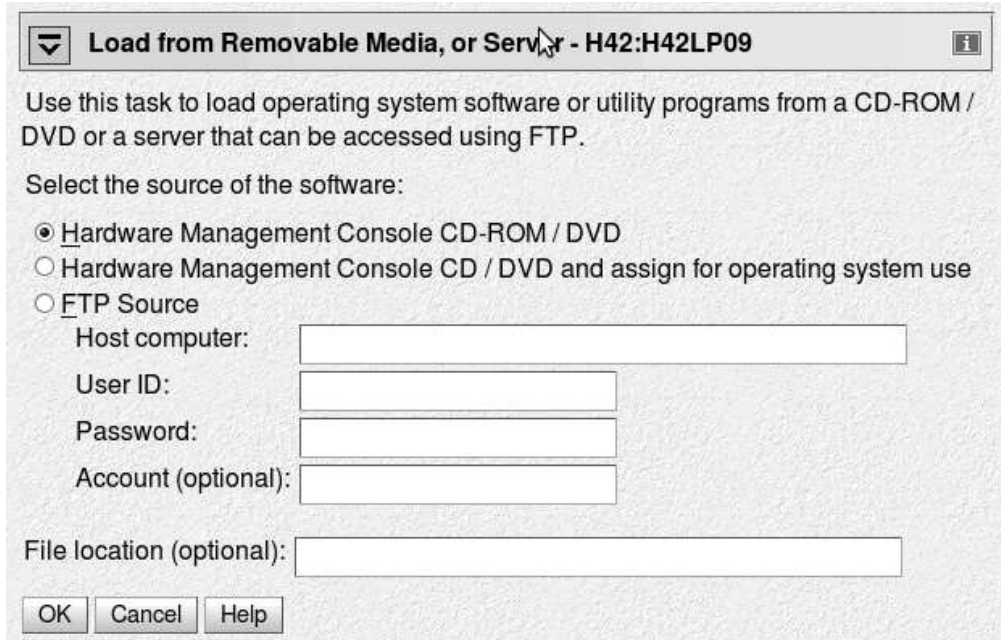

Figure 19. Load from Removable Media or Server panel
- a. Select **Hardware Management Console CD-ROM/DVD** (see Figure 19 on page 69).
- a. Select **Hardware Management Console CD / DVD and assign for operating system use** (see Figure 19).